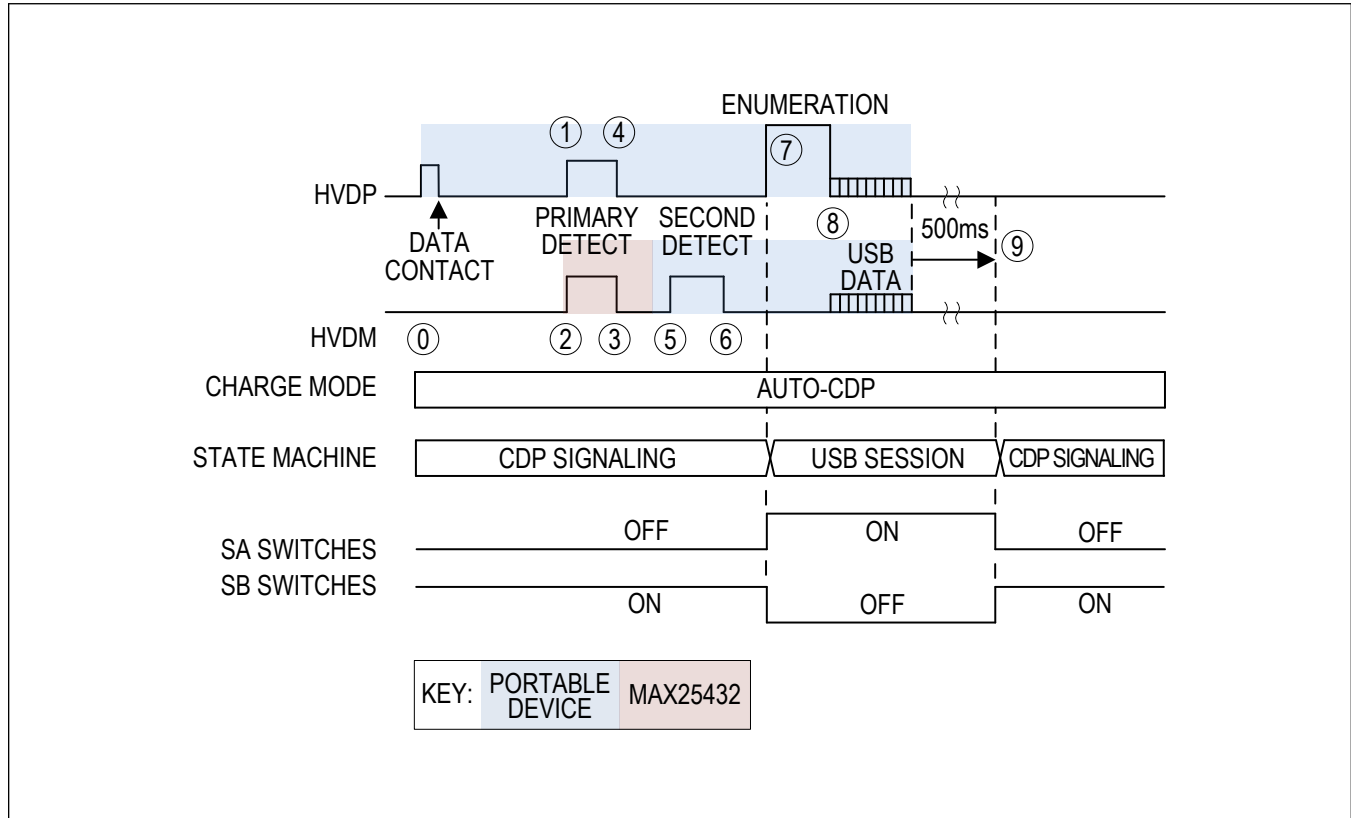

Figure 14. Auto-CDP State Diagram
- The USB data switches (SA switches) are initially open (step 0 in Figure 14), and the detection circuitry is connected to HVDP/HVDM (SB switches). This is the resting state in the Auto-CDP mode and is called CDP Signaling state. In the CDP Signaling state, 19k $\Omega$  (typ) pulldowns are applied on HVDP/HVDM and IDAT\_SINK is active on HVDP.